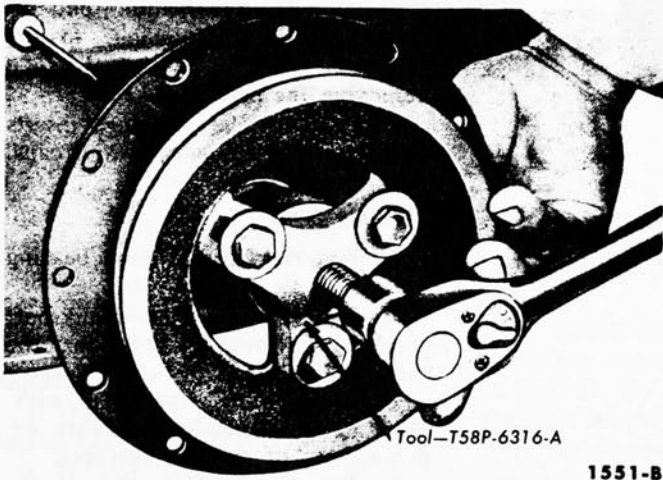

FIG. 19—Crankshaft Damper Removal
4. Remove the large cap screw and washer from the end of the crankshaft. Install the puller on the crankshaft damper (Fig. 19) and remove the damper.